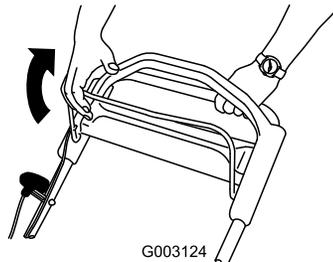

Figure 31
- Pull the blade control bar to the handle (Figure 31).